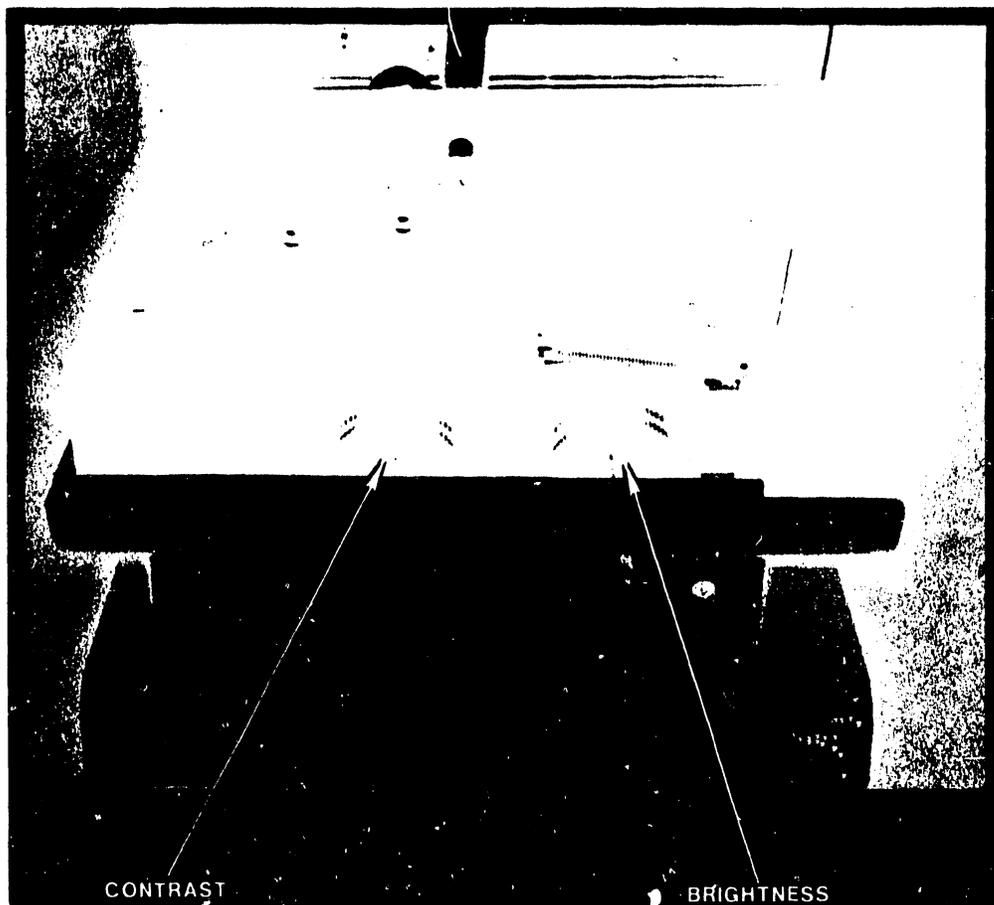

FIGURE 4-1 BRIGHTNESS AND CONTRAST CONTROLS
a. Left side of CRT module - under the cabinet, at top of pedestal (figure 4-1)